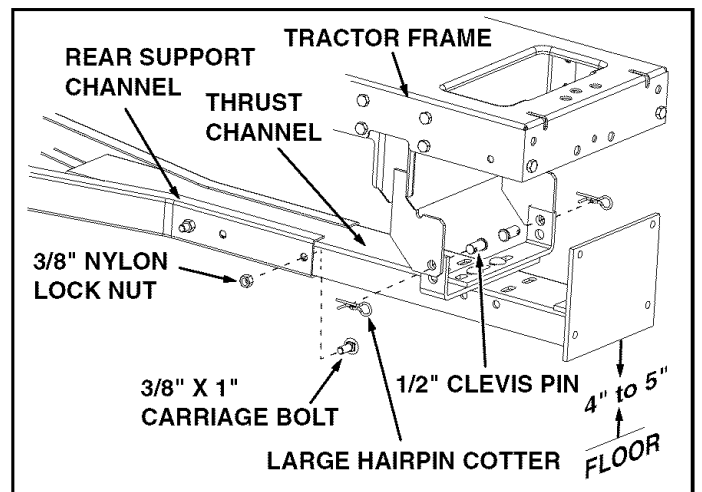

FIGURE 6
- Slide the Thrust Channel forward or back until the Hanger Brackets line up with the Deck Suspension Brackets (or Frame Brackets). Align the holes in the Brackets that will locate the bottom of the Thrust Channel 4" to 5" above the floor. Install two 1/2" x 1" clevis pins and large hairpin cotters. See figure 6.
- Install two 3/8" x 1" Carriage bolts and 3/8" nylon lock nuts in the front holes in the Rear Support Channels. **Finger Tighten only.** See figure 6.